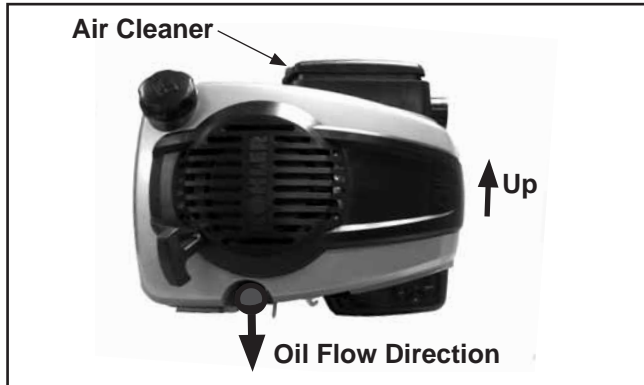

Figure 15. Engine Tilted onto Side, Air Cleaner Up.
2. Tilt the engine on its side with the air cleaner facing up. See Figure 15. Drain oil into approved container.